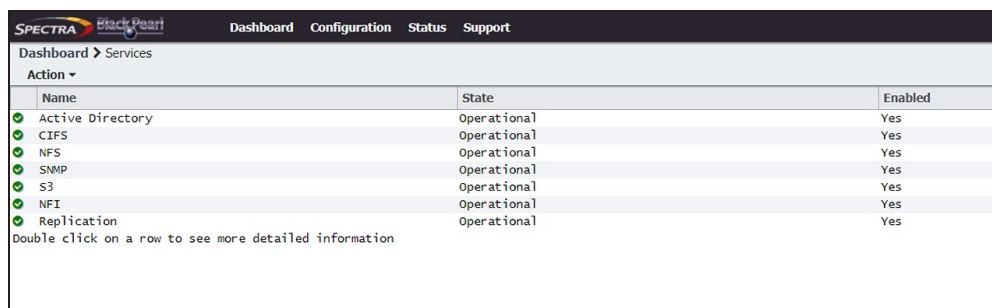

Figure 78 The Services screen.
1. From the menu bar, select **Configuration > Services**. The Services screen displays (see Figure 78 on page 138).